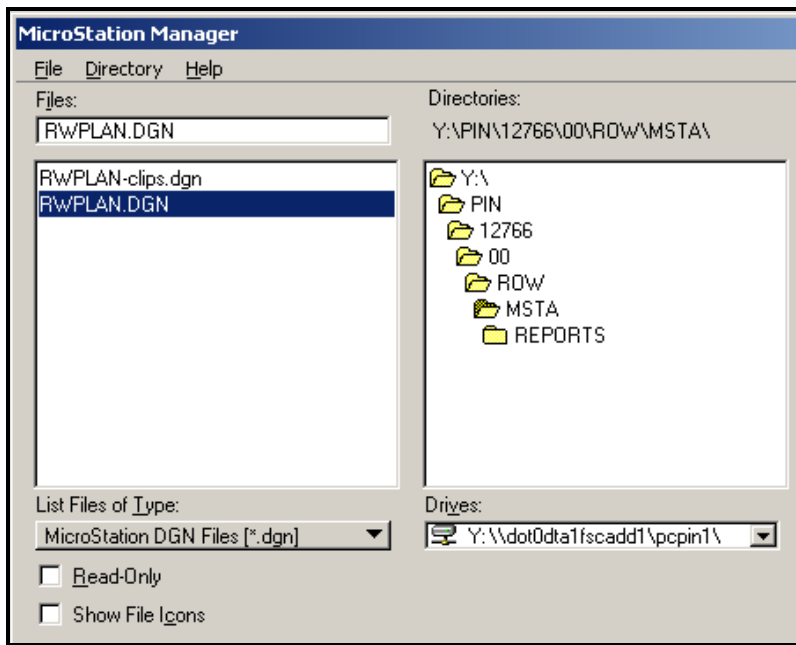

Figure 3-3: Project directory set by project pick.
- 🎵 This will direct the *MicroStation Manager* dialog to the new InRoads project directory on the network (i.e. Y:\pin\12766\00\ROW\MSTA\) (Figure 3-3).